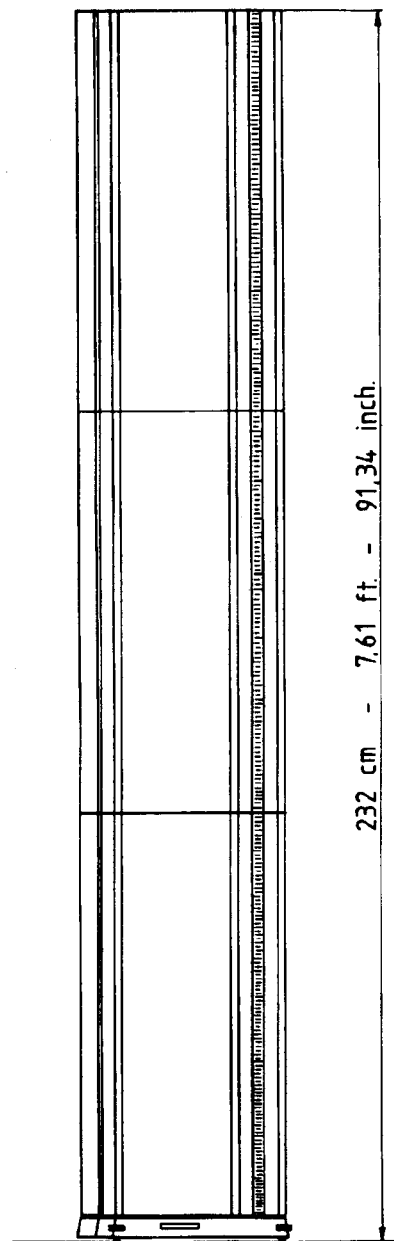

Fig. 2
- Make certain that the floor-to-ceiling distance at the selected position is at least 233 cm (92"). (See Fig. 2.)